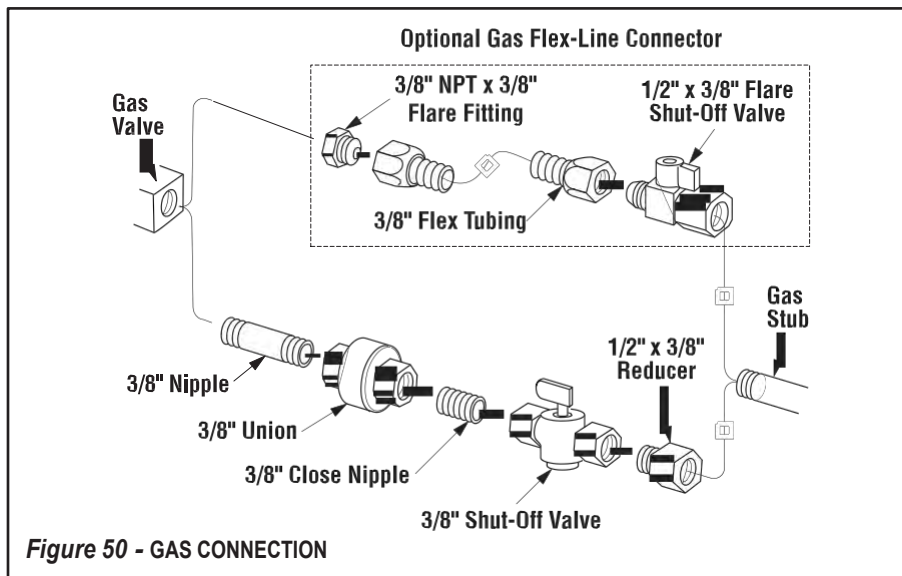

Figure 50 - GAS CONNECTION
2. Install the junction box and receptacle outlet to the left of the valve in the front (for optional blower kit). See junction box and receptacle outlet as explained in steps 1-11 for (B) Electronic Wiring (on this page).
B. Electronic Wiring (See Figure 50)
Make gas line connections. All codes require a shut-off valve mounted in the supply line. **Figure 50** illustrates two methods for connecting the gas supply. The flex-line method is acceptable in the U.S., however, Canadian requirements vary depending on locality. Installation must be in compliance with local codes. A sediment trap is recommended in the gas piping within the home to prevent moisture and debris in the line from damaging the valve.
All codes require a shut-off valve mounted in the supply line. The orientation of the shut-off valve should face the front. **Figure 50** illustrates two methods for connecting the gas supply. A sediment Trap is recommended to prevent moisture and debris in the gas line for damaging the valve.